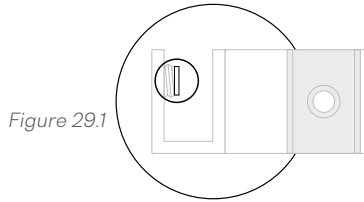

Figure 29.1
- Confirm there is a rubber tip on grub screw inside of the rotating fixed panel clip side of Floor Bracket (**M.**). If there isn't a rubber tip, contact Glass Warehouse customer service to get replacement part (Fig. 29.1).